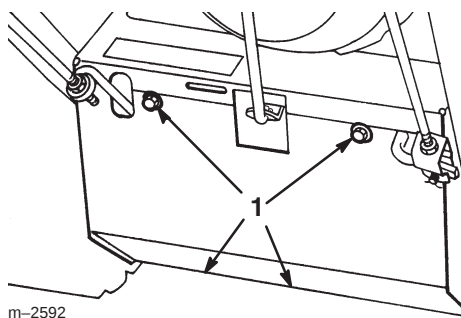

Figure 25
- Remove the four flange-head bolts that secure the bottom cover to the frame and remove the cover (Fig. 25).
8. Remove the four flange-head bolts that secure the bottom cover to the frame and remove the cover (Fig. 25).
- Remove the four flange-head bolts that secure the bottom cover and remove the cover (Fig. 25).